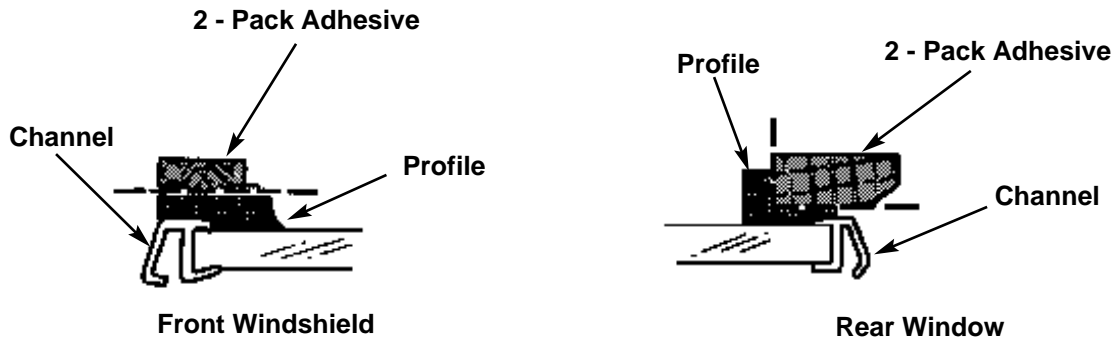

Figure 2
- 2.3 Should window removal become necessary, use a vibrating windshield knife to cut through the bonding material. This must be done carefully because **if the channel for the rubber trim is damaged the windshield must be replaced.** (see Figure 2). Once the window has been removed, carefully remove as much of the old bonding as possible from the window without damaging the gluing profile. Remove the old bonding from the window frame.